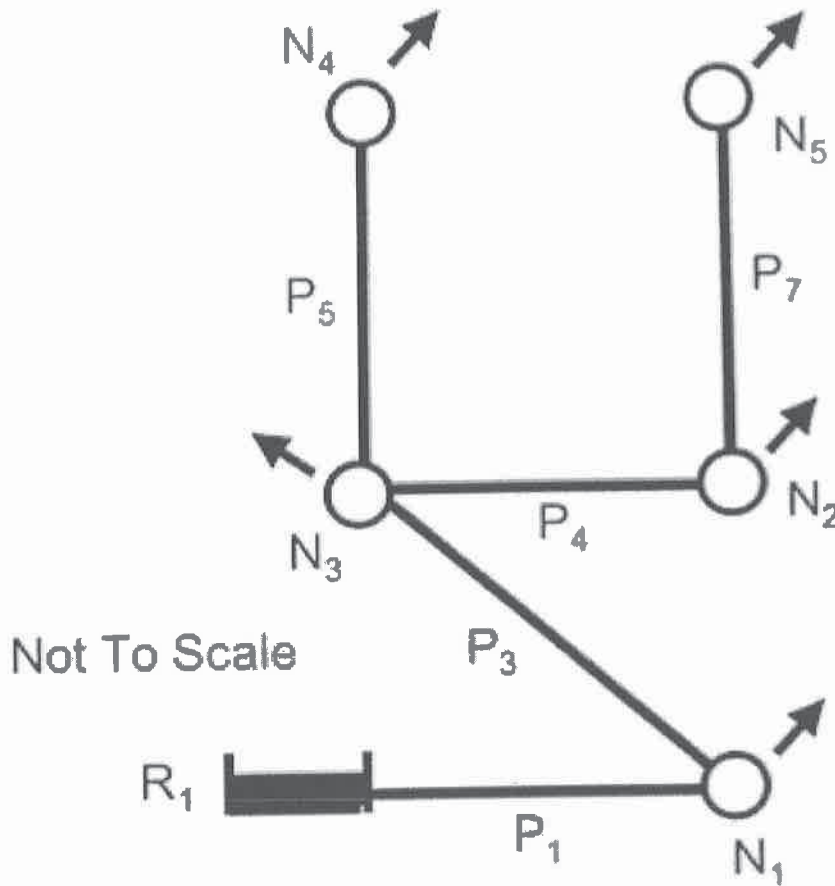

Figure 1. Water supply system.
1. A branched pipe network conveys water from reservoir R1 with constant water level of 65 m to 5 nodes, all at elevation of 20 m (Figure 1). All pipes are made of PVC material and have a Hazen-Williams 'C' factor of 136, an internal diameter of 350 mm, and a length of 155 m. Nodes 1 through 5 have a maximum day demand of 1.5 L/s. Node 5 also carries a fire flow of 60 L/s.